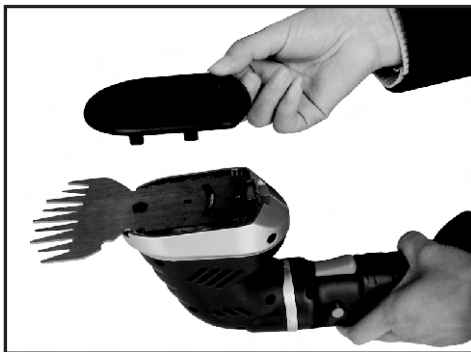

Fig. 20
- Lift the cover (8) away from the housing (Fig.20).